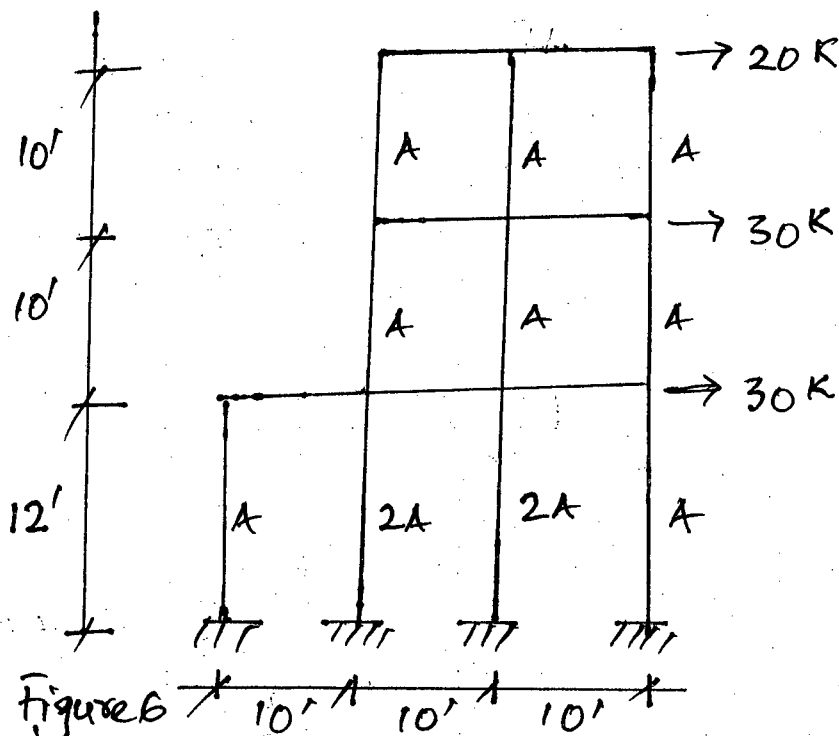

Figure 6
4. Using Cantilever method, draw the axial force, shear force and bending moment diagrams of the beams and columns for the building as shown in Figure 6. Relative column cross-sectional areas are given beside the columns. (46 $\frac{2}{3}$ )